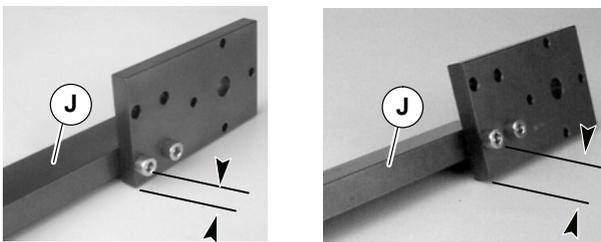

Figure 13
3. Check gearmotor support assembly (J of Figure 13) setup: 2100 (left) and 4100 or 6100 (right).